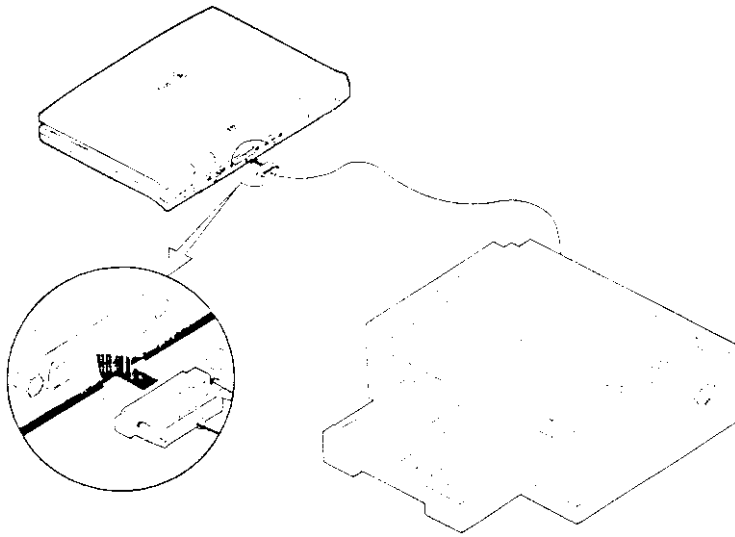

Figure 2-23
2. Connect the cable to the parallel port on the rear of the Notebook Computer (Step 1 in Figure 2-23).
3. Tighten the screws that fasten the cable to the parallel port (Step 2 in Figure 2-23).